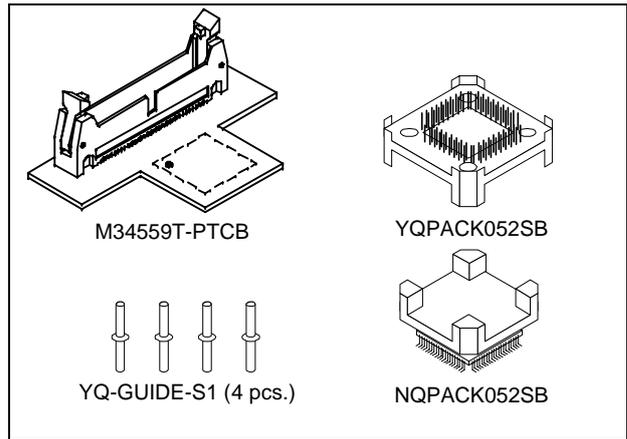

Figure 1 Package components of the M34559T-PTCB
2. Package Components (See Figure 1)